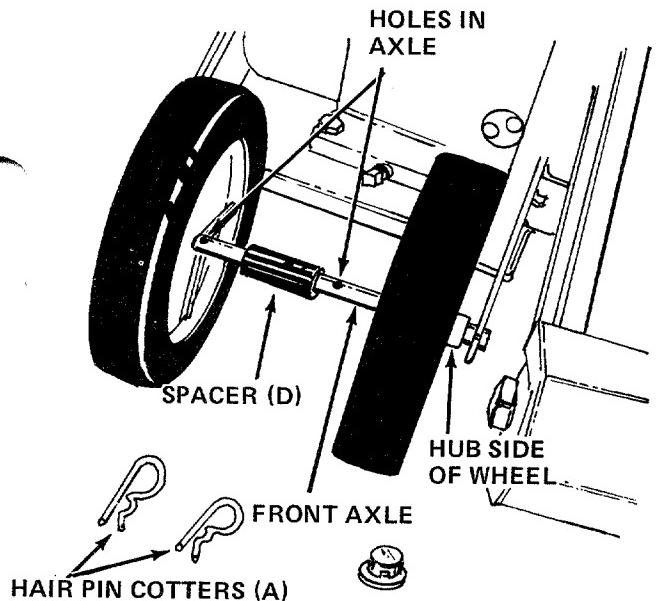
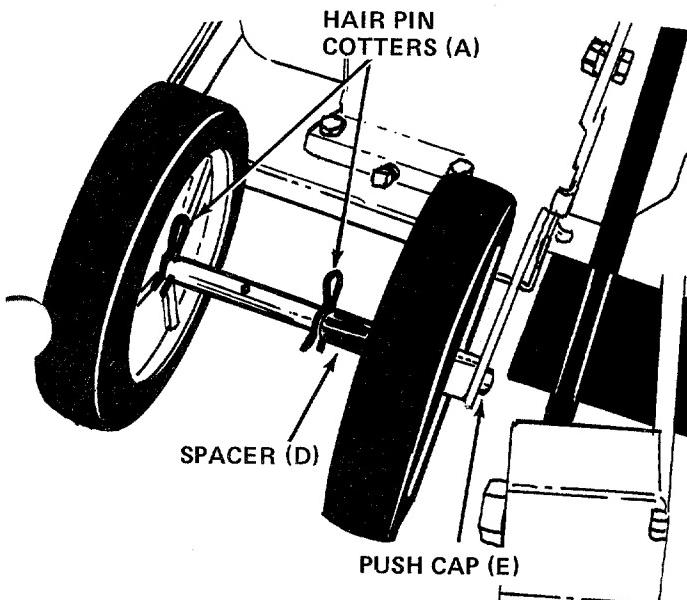
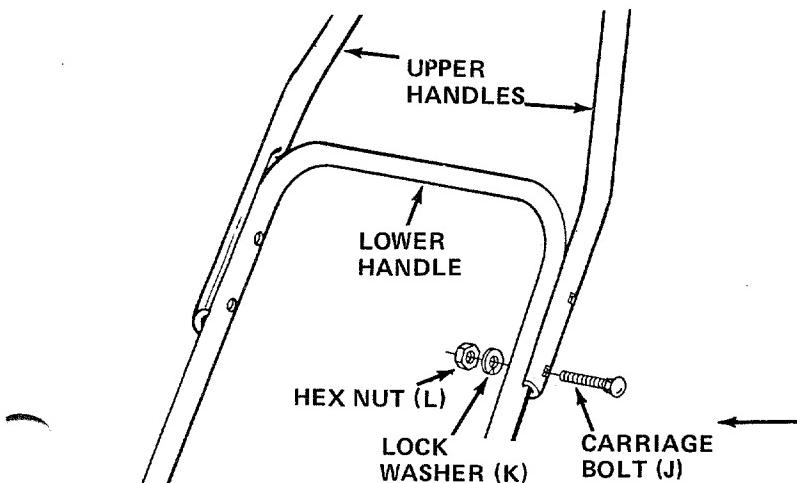

FIGURE 4
FIGURE 5
FIGURE 6
4. Starting on the right side of the edger, place the axle through the support arm on the frame. Then place axle through one wheel so the hub of the wheel is to the outside of the unit. Next place axle through spacer (D), the other wheel (hub to the outside of the unit) and through second support arm. See figure 4. Secure with push cap (E) by tapping it on with a hammer. See figure 5. It is necessary to hold a block of wood or a second hammer against the push cap on the other side of the axle.
5. Secure the front wheels and axle in position using two hairpin cotters (A). See figure 5.
6. Slip the three handle grips (T) on the upper handles and the engagement handle. They will slip on more easily if you first soak them in warm, soapy water.
7. Assemble the two upper handles to the lower handle with four carriage bolts (J), lock washers (K) and hex nuts (L). Tighten only finger tight at this time. See figure 6.